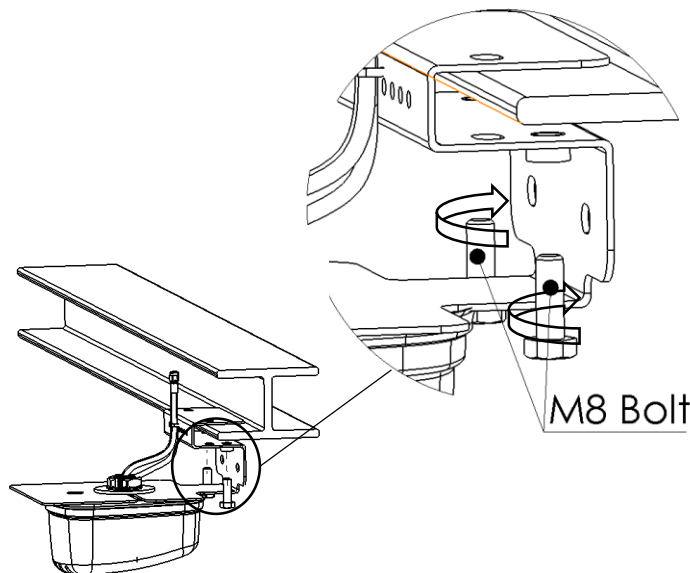

Figure 5.
2. As shown in Figures 3 and 4, attach the bracket + pre-assembled antenna to bottom edge surface, and antenna downward. Bracket components assemble as below figure 5.
3. Bracket comments assemble with I-beam as below figure 5.